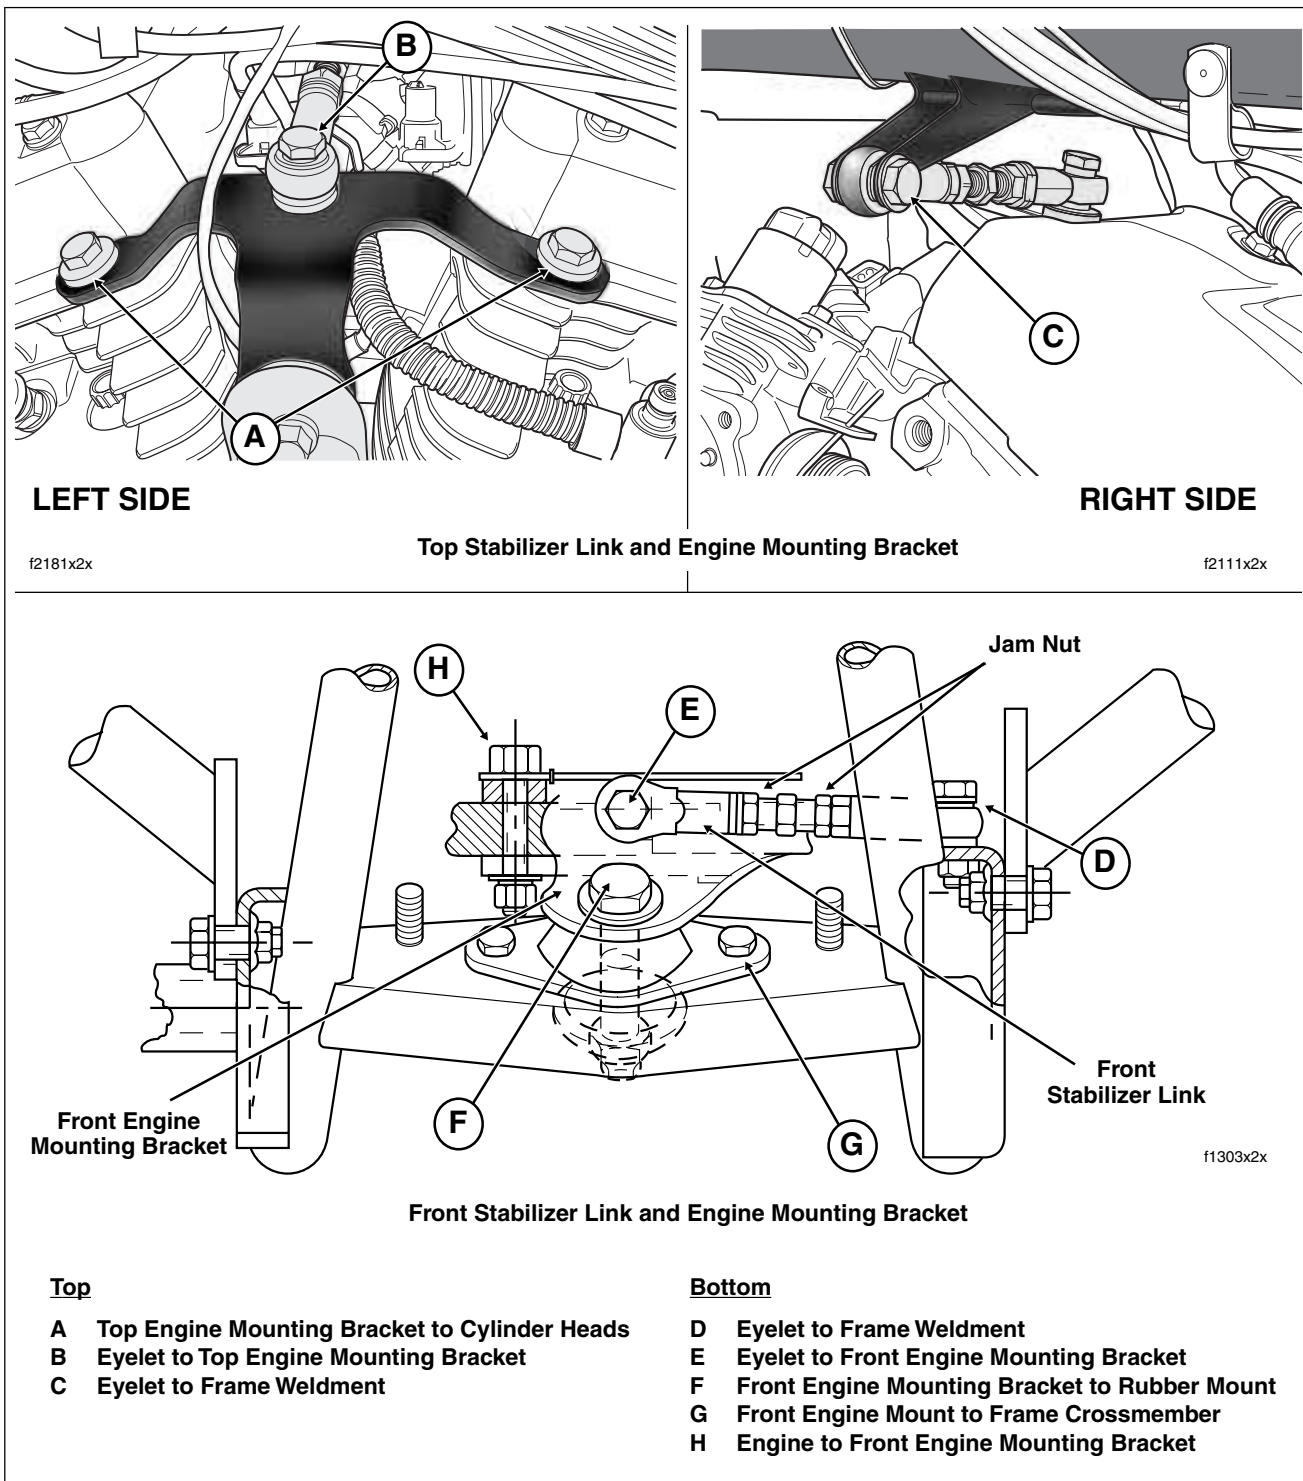

Figure 2-39. Engine Mounting Bracket Bolts
- a. On left side of motorcycle, tighten the two top engine mounting bracket to front and rear cylinder head bolts to 35-40 ft-lbs (48-54 Nm). See A of Figure 2-39.
- b. Moving to right side of motorcycle, tighten the top stabilizer link eyelet to frame weldment bolt to 18-22 ft-lbs (24-30 Nm). See C of Figure 2-39.
- d. Remove the top stabilizer link eyelet to top engine mounting bracket bolt. See B of Figure 2-39.
- b. Tighten two engine to front engine mounting bracket bolts to 33-38 ft-lbs (45-52 Nm). See H of Figure 2-39.
- c. Tighten front stabilizer link eyelet bolt to block on front engine mounting bracket to 18-22 ft-lbs (24-30 Nm). See E of Figure 2-39.
- e. Remove front stabilizer link eyelet to frame weldment bolt. See D of Figure 2-39.
- f. Remove the center front engine mounting bracket to rubber mount bolt (with washers and nut). See F of Figure 2-39.
- a. Install bolts removed under steps 7(d) and 8(e), and using the center hex to maintain equal thread engagement at both eyelets, adjust stabilizer links so that bolts thread in without any stress or engine movement. See B and D of Figure 2-39.
- Tighten the two front engine mount to frame cross-member bolts to 15-20 ft-lbs (20-27 Nm). See G of Figure 2-39.
- Install center front engine mounting bracket to rubber mount bolt (with washers and nut) and tighten to 15-20 ft-lbs (20-27 Nm). See F of Figure 2-39.
- Loosen the two front engine mount to frame cross-member bolts. See G of Figure 2-39.
- After the mount is centered, tighten the two front engine mount to frame crossmember bolts to 15-20 ft-lbs (20-27 Nm). See G of Figure 2-39.
- c. Tighten front stabilizer link eyelet to frame weldment bolt to 18-22 ft-lbs (24-30 Nm). See D of Figure 2-39.
- d. Tighten front stabilizer link eyelet bolt to block on front engine mounting bracket to 18-22 ft-lbs (24-30 Nm). See E of Figure 2-39.
- e. Remove the center front engine mounting bracket to rubber mount bolt (with washers and nut). See F of Figure 2-39.
- b. Tighten the stabilizer link eyelet to top engine mounting bracket bolt to 18-22 ft-lbs (24-30 Nm). See B of Figure 2-39.
- a. Loosen the top stabilizer link eyelet to top engine mounting bracket bolt. See B of Figure 2-39. Verify that bolt is unloaded and threads freely in and out of the mounting bracket hole. If necessary, loosen jam nuts and adjust stabilizer link to achieve a free state. Tighten bolt to 18-22 ft-lbs (24-30 Nm) and then tighten jam nuts before rechecking vertical alignment.